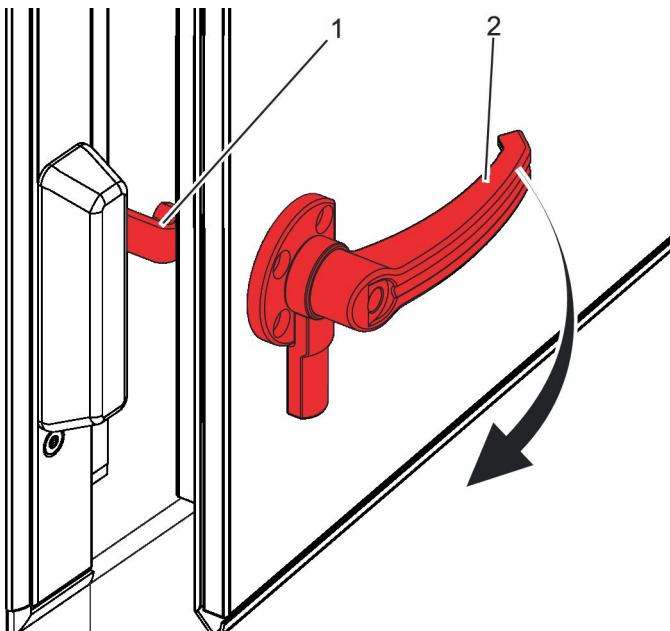

Fig. 19: Releasing the safety catch
3. ▶ Turn the door handle (Fig. 19 /2) clockwise by 90°.
⇒ This releases the safety catch (Fig. 19 /1); the inspection access door can now be completely opened.